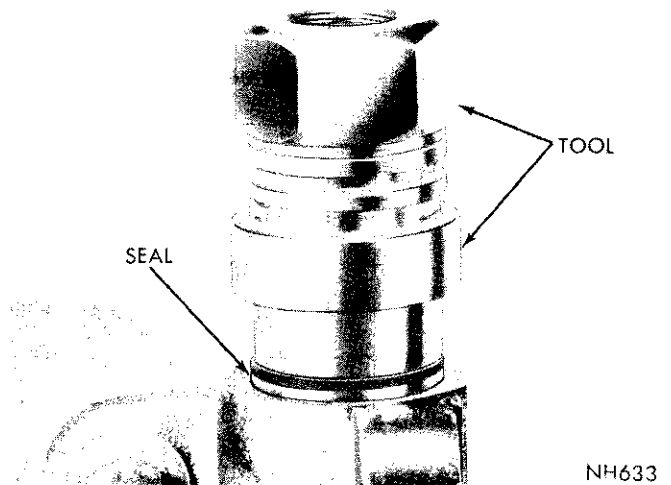
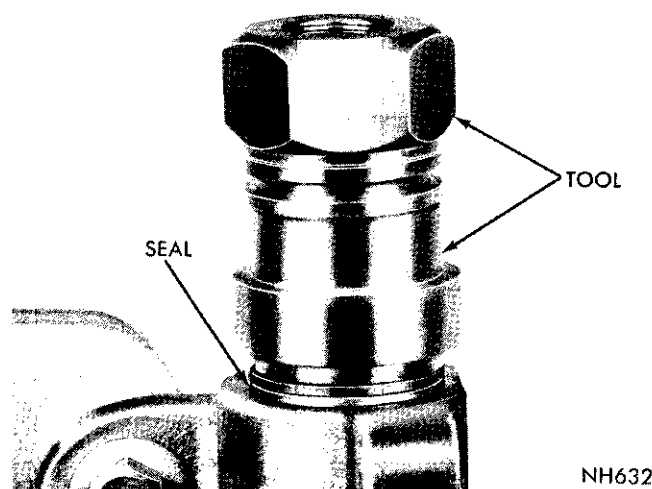

Fig. 6—Installing Gear Shaft Inner Oil Seal
Fig. 7—Installing Gear Shaft Grease Retainer
(5) Use Tool C-3350-A in same manner as outlined in step (3) to remove inner seal.
(6) Place new oil seal on flat surface, lip down, lubricate inside diameter with power steering fluid and insert seal protector sleeve SP-1601.
(7) Position seal with protector over cross shaft with lip of seal toward housing.
(8) Place tool adapter SP-3052 with long step of adapter against new seal (Fig. 6). Install tool nut on cross shaft and tighten tool nut until shoulder of tool adapter contacts gear housing.
(9) Remove tool nut, adapter and protector. Install seal back-up washer and oil seal snap ring with sharp edge out.
(10) Position grease retainer in housing bore. Place tool adapter SP-3052 with short step of lip against seal (Fig. 7). Install tool nut on cross shaft and tighten until shoulder of tool adapter contacts gear housing.
(11) Place steering gear and front wheels in straight ahead position and install steering gear arm and nut.
(12) Tighten steering gear arm nut to 180 foot-pounds.